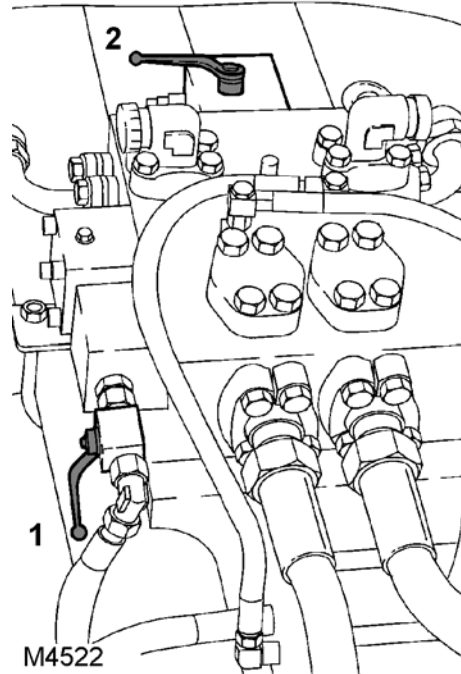

Fig. 551
2. Move both ball valves (1+2) (**Fig. 551**) on the pump kit into the “pressure control” position (**Fig. 552**) so that the pistons come to a standstill.